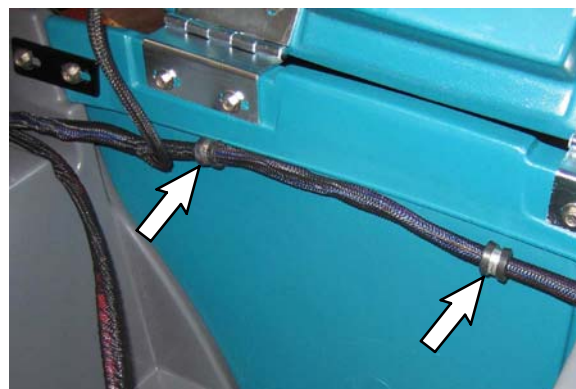

Fig. 4
- d.) Remove the two clamp screws that mount the wire harness to the shroud (Figure 4).